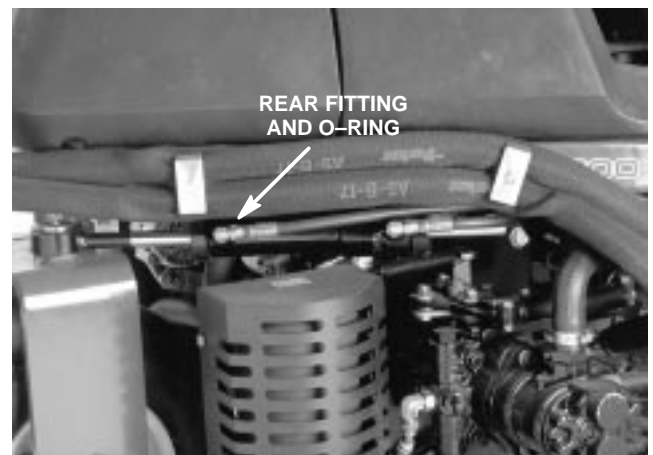

Figure 73
10. Disconnect hose assembly (32) and remove O-ring from the rear hydraulic fitting on the steering cylinder (Fig. 73). Allow hose to drain into a suitable container.
12. Remove screws (7) from the steering cover assembly (14) and steering control valve (23). Pull control valve and attached hose assemblies free of the machine.
13. Remove hose assemblies (30, 31, and 32) and O-rings (29 and 36) from the steering control valve (23). Remove hydraulic fittings (17) and O-rings (29) from the control valve. Plug ports to prevent contamination.
14. Remove both cap screws (18) and steering column assembly (15) from the steering control valve (23).
7. Connect hose assembly (32) with O-ring to the rear hydraulic fitting on the steering cylinder (Fig. 73).
8. Connect hose assemblies (33 and 34) with O-rings (35) to hydraulic fittings (17).
9. Install cable tie (37) to the hose assemblies.
10. Position steering valve cover (16) to the steering cover assembly (14). Secure cover to assembly with screws (13) and speed nuts (25).
11. Install steering wheel nut (6) to the steering column assembly (15). Torque nut to 35 ft-lb (4.8 kg-m).
12. Secure steering wheel cap (27) with screws (28) to the steering wheel (5).